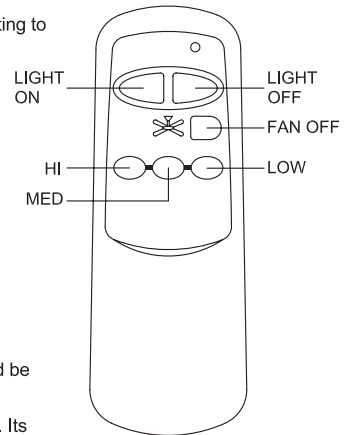

Fig. 1.1
3. Make the wiring connection as shown in Fig. 1.1 and 1.2. IR sensor must be stuck outside canopy. Its position depends on IR receiving condition.(Fig. 2)